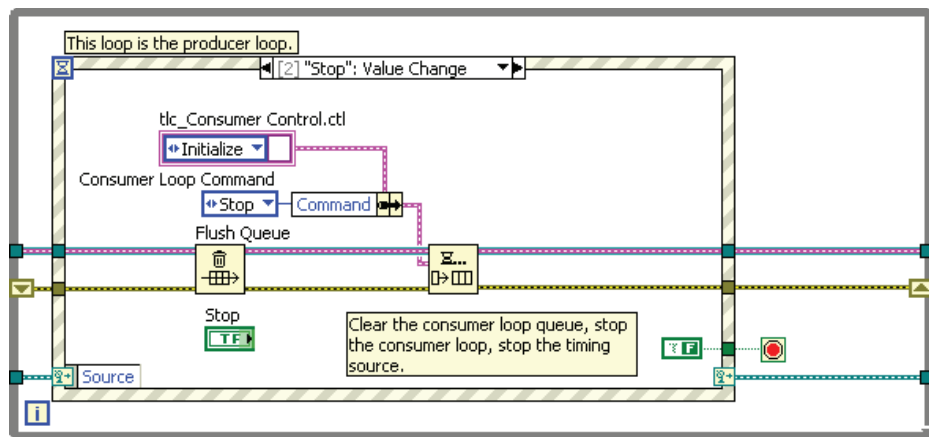

Figure 7-28. Producer Stop Event Case
2. In the producer loop, add the Flush Queue function to the Stop event case to flush the queue, as shown in Figure 7-28.